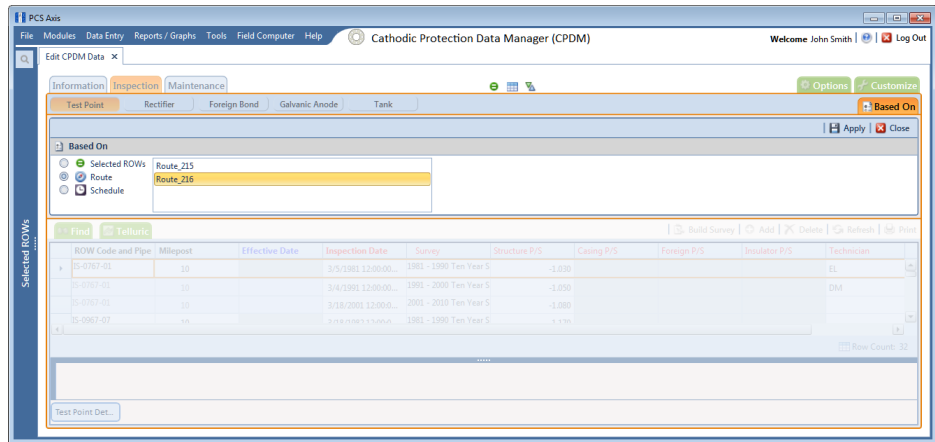

Figure 7-40. Based On Route
- 1) Click the **Route** option. Then select a route in the adjacent group box (Figure 7-40).